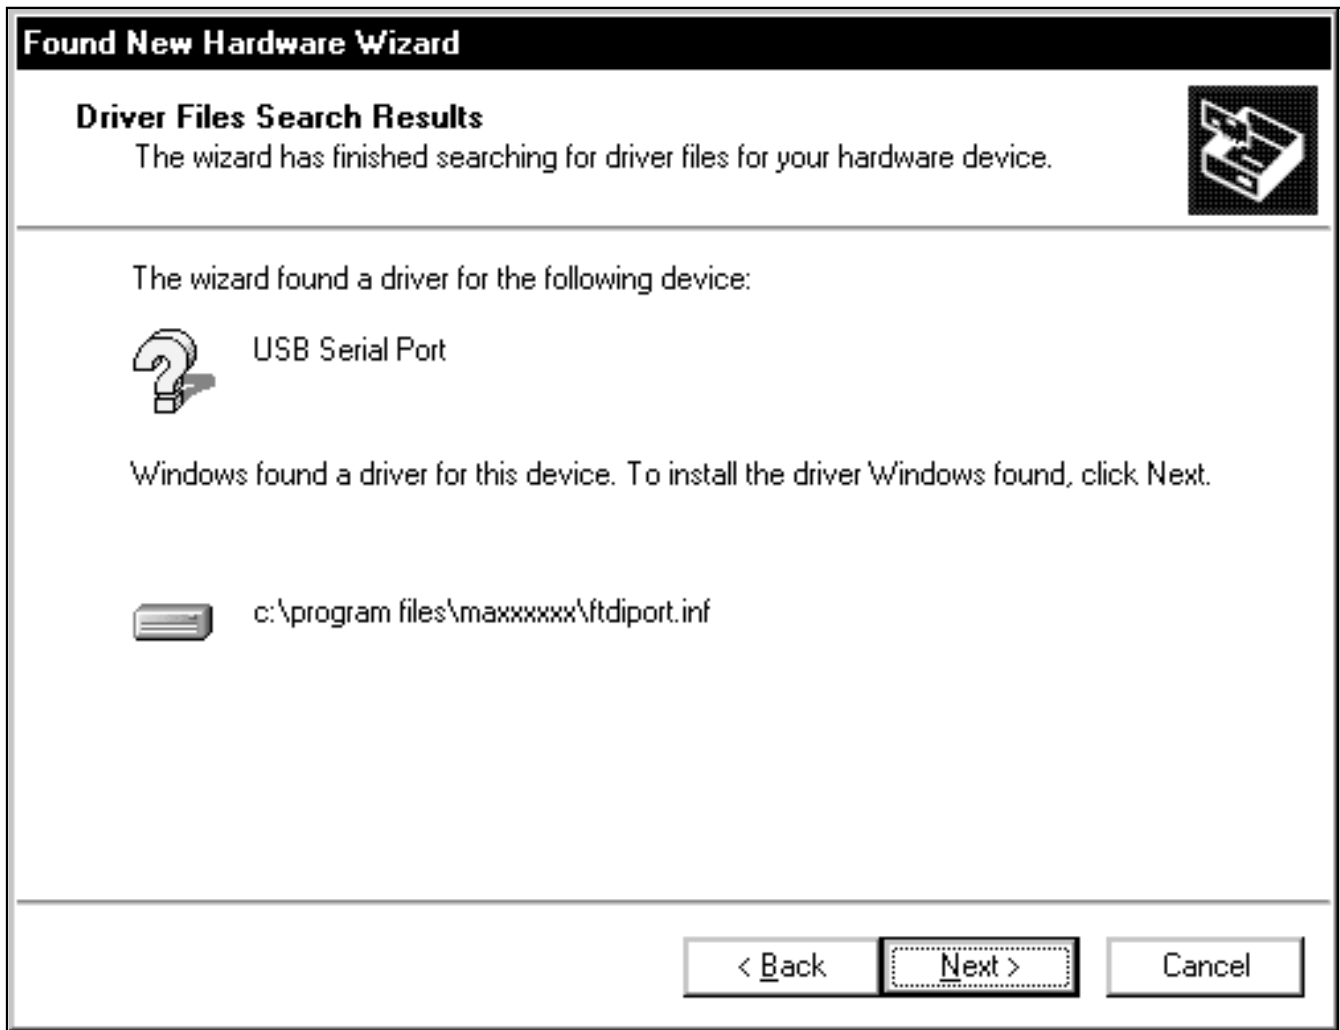

Figure 21. Windows 2000: **Found New Hardware Wizard | Driver Files Search Results** Window
- 13) The **Found New Hardware Wizard | Driver Files Search Results** window (Figure 21) appears. Press the **Next** button after the wizard finds the driver.